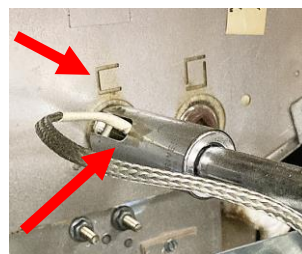

Figure 57
58. Reconnect the cook temperature probe in the port marked with a "C" and tighten (see Figure 57).